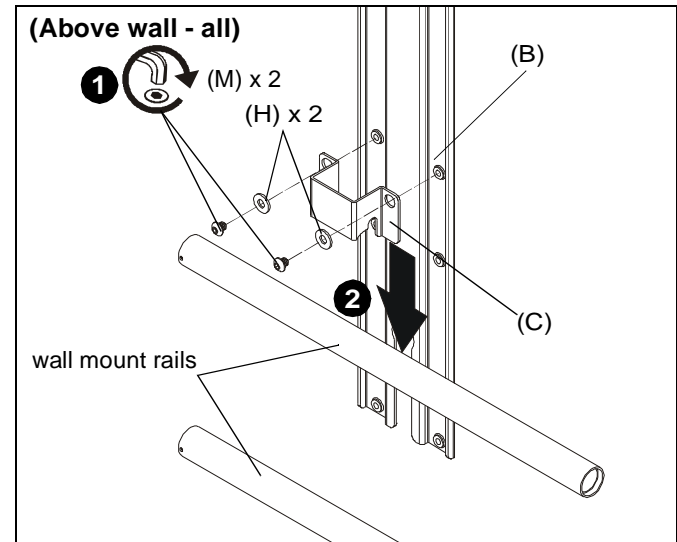

Figure 16
1. Use two 1/4-20 x 1/4" button head cap screws (M) and two large washers (H) to secure shelf bracket (C) to main bracket (B). (See Figure 16)
2. Slide main bracket (B) behind wall mount rails until shelf bracket (C) rests on top wall mount rail. (See Figure 16)